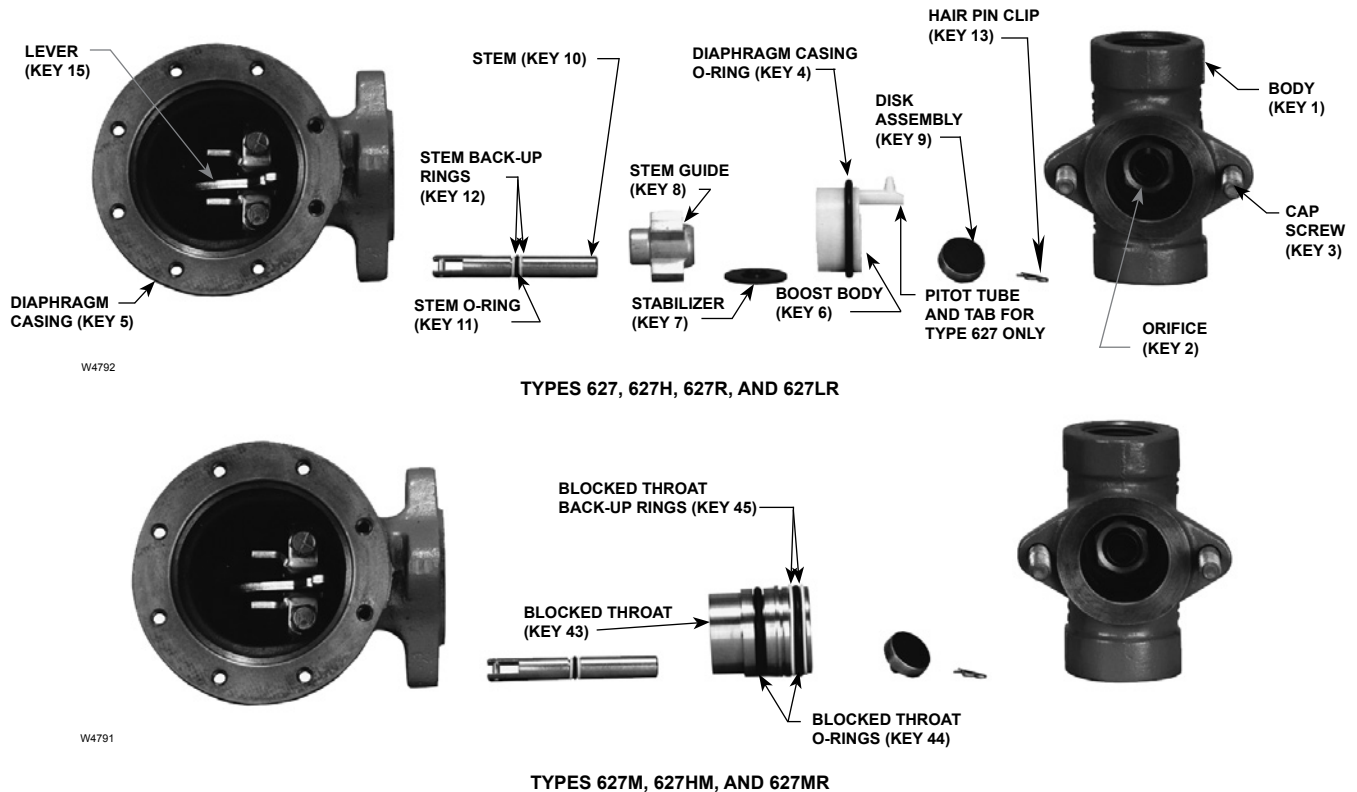

Figure 5. Stem Assemblies
1. To inspect and replace the disk assembly (key 9) or orifice (key 2), remove the cap screws (key 3, Figure 5), and separate the diaphragm casing (key 5) from the body (key 1).
2. Inspect and, if necessary, remove the orifice (key 2). If removed, coat the threads of the replacement orifice with lubricant and torque to 25 foot-pounds / 34 N•m.
3. Inspect the disk assembly (key 9) and, if necessary, remove the hair pin clip (key 13) that holds the disk assembly (key 9) in place. If replacing the disk assembly is the only maintenance required, skip to step 16.
10. To remove the blocked throat (key 43), insert a screw driver blade into the groove provided in the throat and pry it out of the diaphragm casing (key 5). Inspect and replace parts as necessary.
11. Inspect and, if necessary, replace the blocked throat O-rings (key 44, Figure 5) and back-up rings (key 45, Figure 5).
12. Apply lubricant to replacement blocked throat O-rings (key 44) and back-up rings (key 45).
13. Apply lubricant to the replacement stem O-ring (key 11) and stem back-up rings (key 12) and install them on the stem (key 10).
14. For assembly, lubricate the stem (key 10) and insert the diaphragm casing (key 5) and hook it on the lever (key 15).
15. Lubricate the contact points of the lever (key 15).
16. Insert parts into the diaphragm casing (key 5) that were removed in steps 5 and 6 or step 10 (see Figure 5).
17. Install the disk assembly (key 9), line up the hole in the disk assembly and stem (key 10) and insert the hair pin clip (key 13).
18. Position the diaphragm casing (key 5) plus attached parts in relation to the body (key 1) so that they are correct for the application.
19. Secure the diaphragm casing (key 5) to the body with the cap screws (key 3, Figure 5). For an aluminum diaphragm casing, torque the cap screws (key 3) to 16 foot-pounds / 22 N•m. For ductile iron or steel diaphragm casings, torque the cap screws (key 3) to 25 foot-pounds / 34 N•m.
6. For Types 627, 627H, 627M, and 627HM regulators (Figures 5 and 6), use steps 7 through 11 to disassemble and reassemble the diaphragm assembly.
7. Remove the diaphragm head cap screw (key 46), lower spring seat (key 31, Type 627 or 627M only), and diaphragm head (key 24). On the Type 627H or 627HM, remove the pusher post O-rings (key 52). Separate the diaphragm (key 23) from the pusher post (key 19).
8. Install the diaphragm (key 23), in reverse order in step 7, on the pusher post (key 19), insert and finger tighten the diaphragm head cap screw (key 46).
9. Hook the pusher post on the lever (key 15), then turn the diaphragm (key 23) to match the holes in the diaphragm with the holes in the spring casing.
10. Unhook the pusher post from the lever (key 15) and torque the diaphragm head cap screw (key 46) to 7 foot-pounds / 9.5 N•m for the Type 627 or 627M. On the Type 627H or 627HM, torque the diaphragm head cap screw to 14 foot-pounds / 19 N•m.
11. Hook the pusher post on the lever (key 15) and check the hole alignment. If necessary, loosen the cap screw (key 46) and reposition the diaphragm (key 23) on the pusher post (key 19). Retorque the screw (see step 10). Skip to step 20.